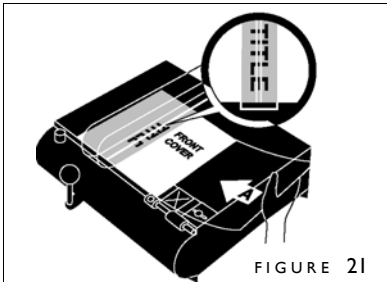

FIGURE 21
3. Slide your cover under the transparent bar until your title is centered under the single silver line (Figure 21). Make sure the bottom of your cover rests against the Left Stop and the Guide Rail. Push the Lever to the right so your cover will not move.